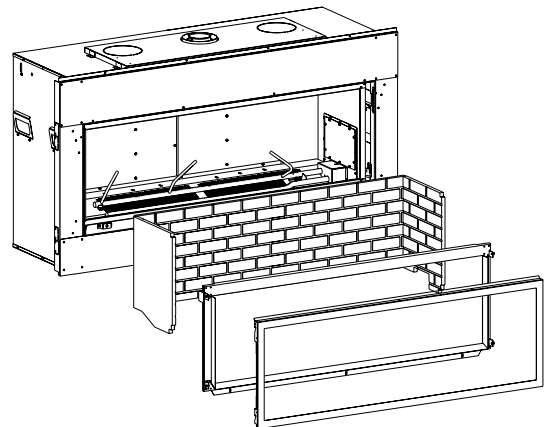

Figure 9
1. Remove the following items. See Figure 9.
9. Replace Glass Frame, Screen Barrier, and liners removed in Step 1, Figure 9.